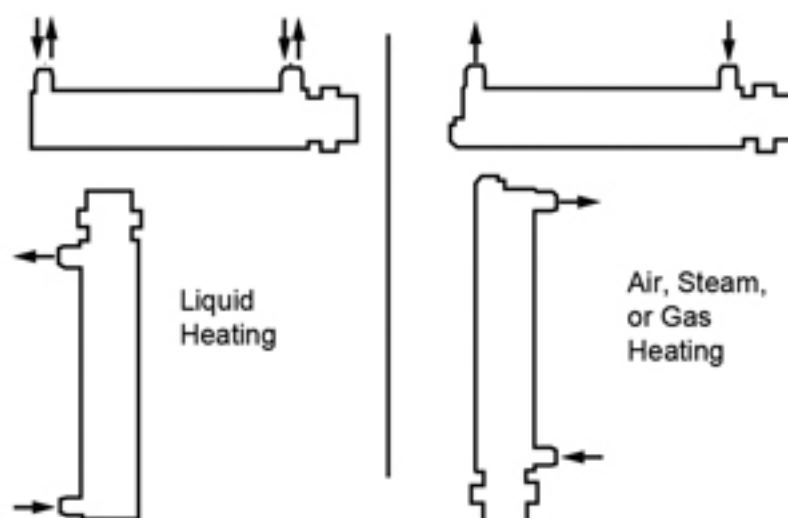

Figure 2
2. Circulation heaters may be mounted either horizontally or vertically (see figure 2). Note: When mounted in the horizontal position the inlet and outlet pipes must be up. If positioned in any other way, the chamber cannot be purged of air and damage to the elements may result. Allow adequate space for removing the element assembly for cleaning service.